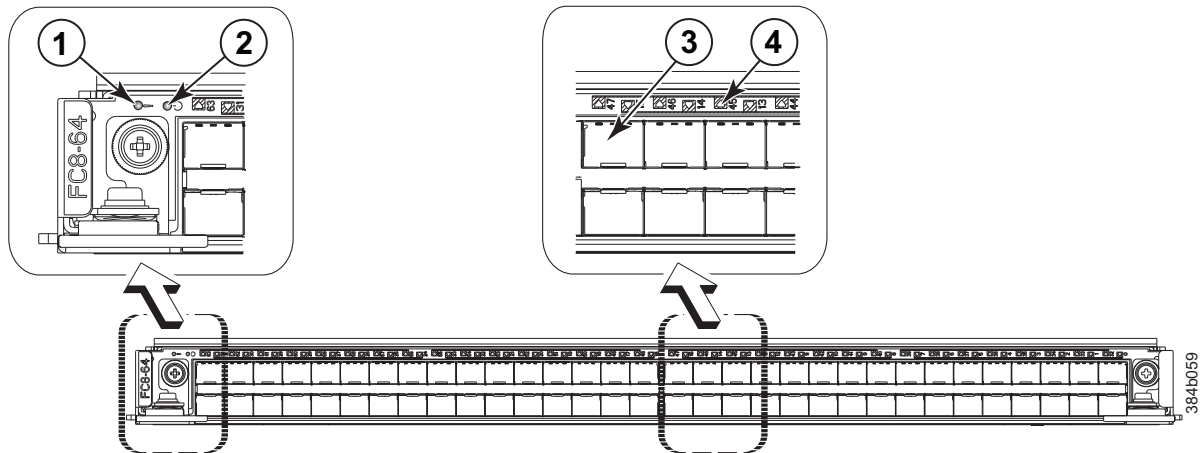

Figure 24. FC8-64 port blade
- Figure 24 on page 59 illustrates the FC8-64 port blade